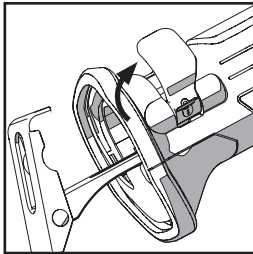

Fig. 1
- Operate the blade clamping lever to 'open' the blade holder. **(Fig. 1)**